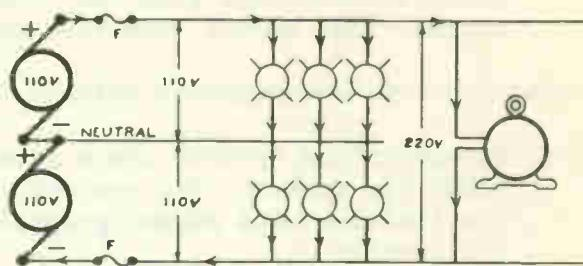

Fig 1B A 3-wire DC system
2. Example of a balanced load on a perfectly balanced three wire system each of the outside wires carry the total load - neutral wire nothing, Fig. 1B